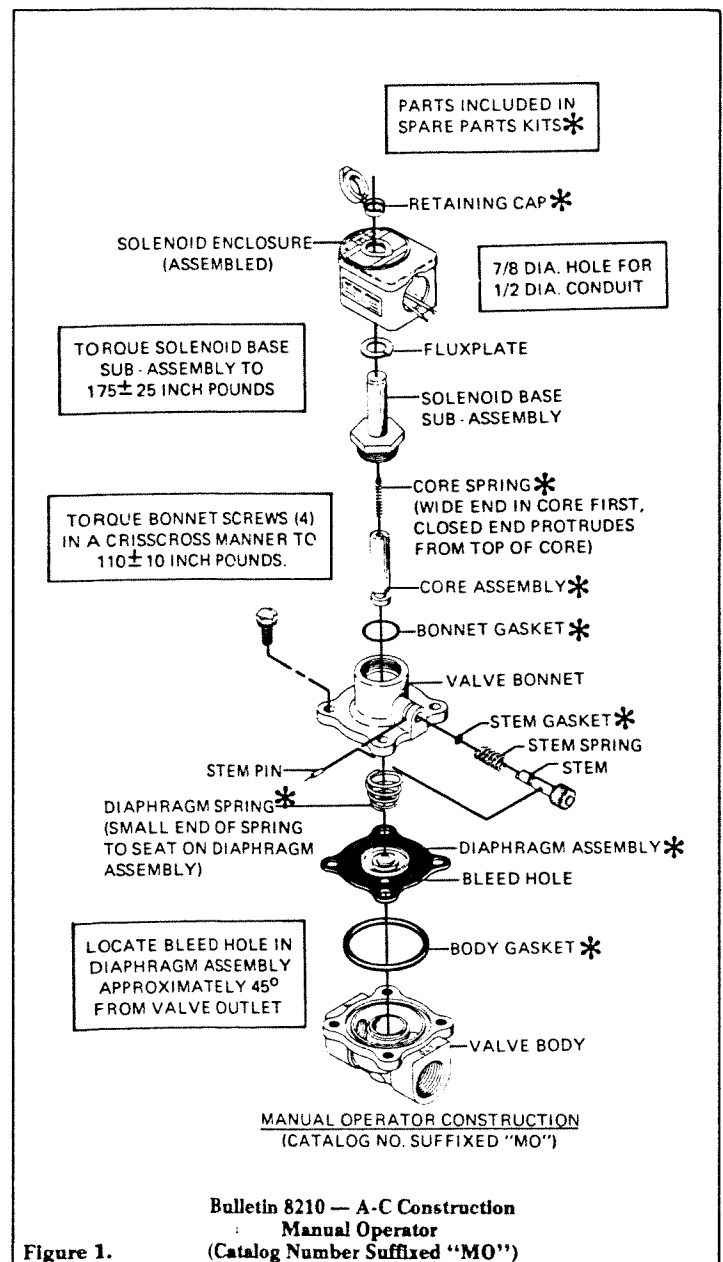

Figure 1.
### MANUAL OPERATOR LOCATION (Refer to Figures 1 and 3)
## COIL REPLACEMENT (Refer to Figures 1, 2 and 3)
Depressurize valve and turn off electrical power supply. For A-C Construction, refer to Figures 1 and 2. For D-C Construction, refer to Figure 3. Proceed in the following manner:
3. Replace valve bonnet and bonnet screws. Torque bonnet screws (4) in a crisscross manner to 110 ± 10 inch pounds.
4. For A-C Construction, the diaphragm spring, core assembly and core spring must be installed prior to assembly of bonnet as this is the solenoid base sub-assembly. Be sure diaphragm spring is installed properly. Closed turns of spring to seat on diaphragm assembly. For valves with a manual operator (see Figure 1), the small end of diaphragm spring seats on diaphragm assembly.